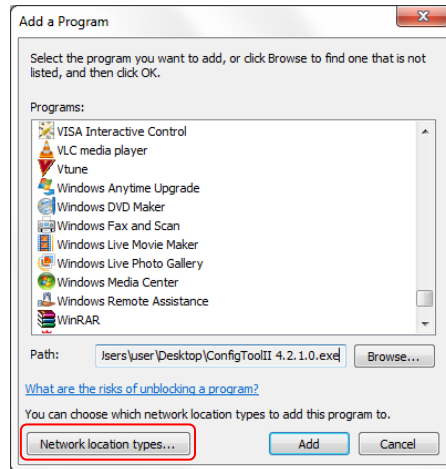

Figure 88 - Choose network location types
- Click the “Network location types...” button. Refer to Figure 88.